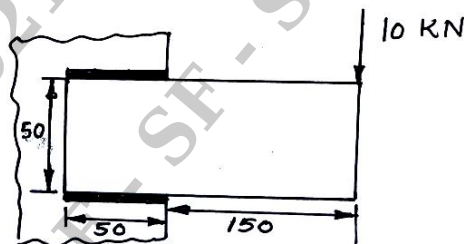

Fig. Q7 (b)
b. Determine the size of weld required for an eccentrically loaded weld as shown in Fig. Q7 (b). The allowable stress in the weld is 95 MPa. **(10 Marks)**